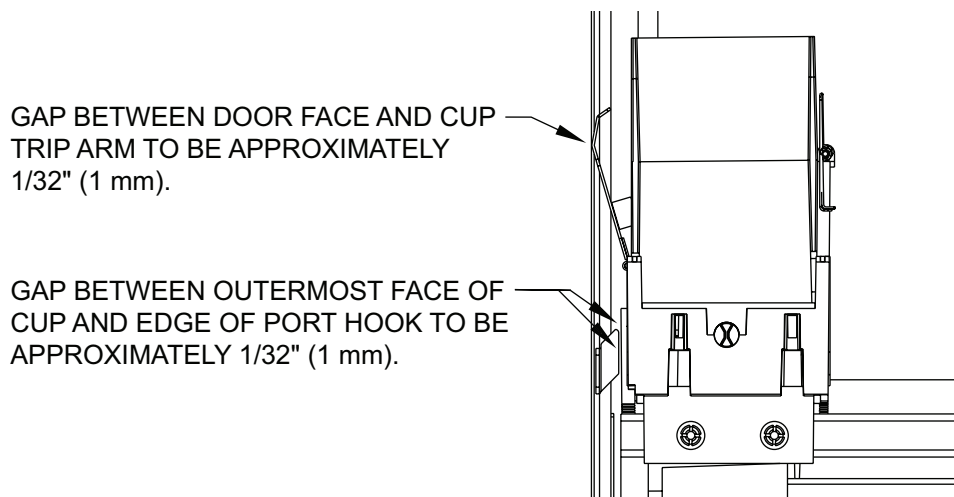

Figure 4.2
10. Align the outermost face of the cup with the outer edge of the port hook, with 1/32" (1 mm) gap. (See Figure 4.2.)